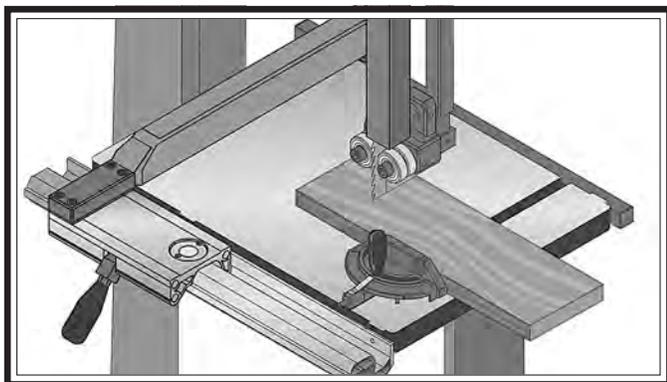

Figure 68. Example of a crosscutting operation with the miter gauge.
5. After all safety precautions have been met, turn bandsaw **ON** and wait for it to come to full speed. Slowly feed workpiece into blade until blade is all the way through workpiece. **Figure 68** shows an example of a crosscutting operation.